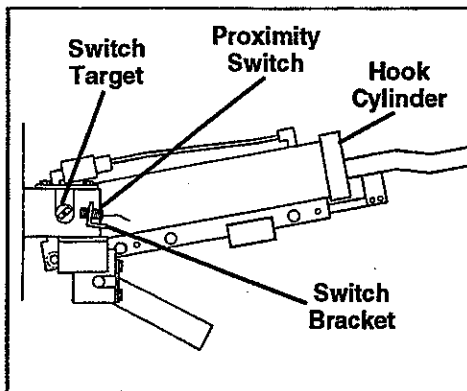

Fig. 27. Proximity Switch and Target
- A. Locate the proximity switch that is mounted in a bracket located on the trunnion for the hook cylinder. Locate the target for the switch. See Figure 27.